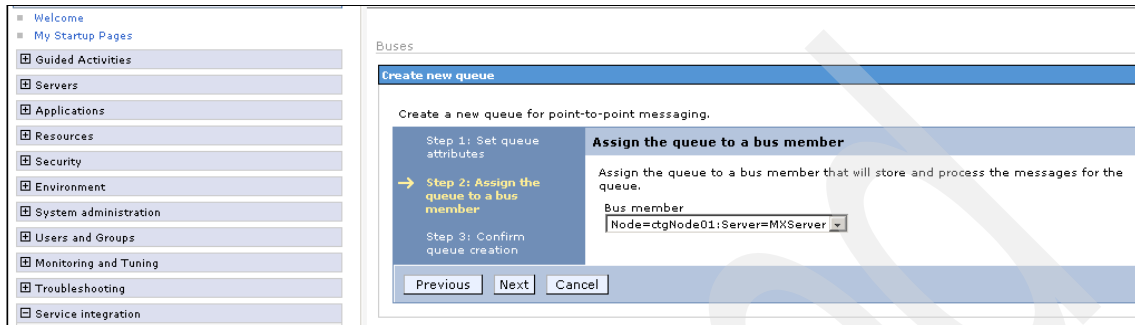

Figure A-34 Confirm queue creation
4. Select the Bus Member pull-down and choose **Node=ctgNode01:Server=MXServer** as the bus member to store and process messages for the CQINBD bus destination queue (see Figure A-34). Click **Next** to open the Confirm queue creation dialog box.